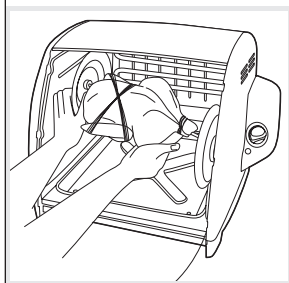

FIGURE 4
14. To place the spit rod into machine, place right hand under meat, use your left hand to firmly hold the permanent wheel, place loaded spit into unit at an angle with the pointed end on the right side pointing down. Slide the pointed end into the hole on the right side of the machine, while lowering the left side into the cradle. (*Figure 4*)